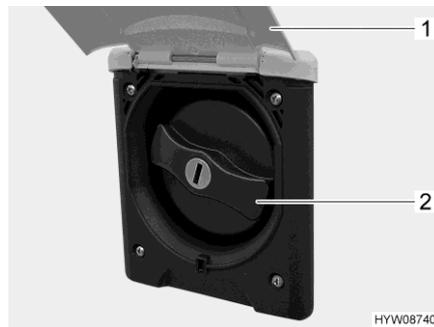

Fig. 152 Cap (drinking water filler neck)
- Swivel the external flap (Fig. 152,1) upwards.
- Turn the blue cap (Fig. 152,2) one quarter turn.